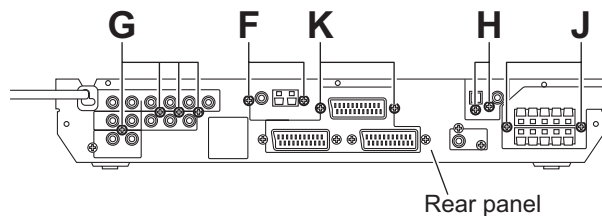

Fig.8
- (2) From the back side of the main body, remove the two screws **F** attaching the tuner to the rear panel. (See Fig.8)
- (1) From the back side of the main body, remove the four screws **G** attaching the PAL prg board to the rear panel. (See Fig.8)
- (1) From the back side of the main body, remove the two screws **H** attaching the DSP board to the rear panel. (See Fig.8)
3.1.8 Removing the SPK term. board (See Figs. 8 and 9)
- (1) From the back side of the main body, remove the two screws **J** attaching the SPK term. board to the rear panel. (See Fig.8)
3.1.9 Removing the SCART board (See Figs. 8 and 10)
- (1) From the back side of the main body, remove the two screws **K** attaching the SCART board to the rear panel. (See Fig.8)